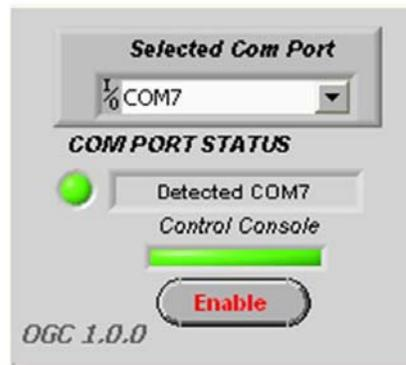

Figure 235: Connecting to the Proper COM Port with the COM Selector
When the correct COM port is detected, the message box for “Com Port Status” will switch from “No Connection” to “Detected COM7” (for example); the round indicator light immediately to the left of the message box will flash green. Very shortly after, the rectangular indicator below “Control Console” will turn green, and the “Enable” button will become active. See Figure 235.
1. Click on the “Enable” button (Figure 235). The button will switch from “Enable” to “Enabled,” it will become non-active, and a dialog box will pop up with the question, “Reset All Boards?”